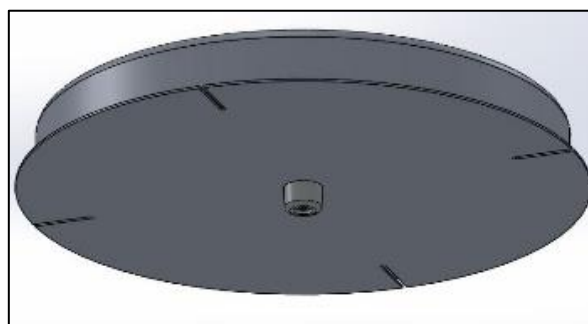

FIG. 4 - CANOPY
3. CANOPY WITH DRIVER INSTALLED (as shown in FIG. 4)